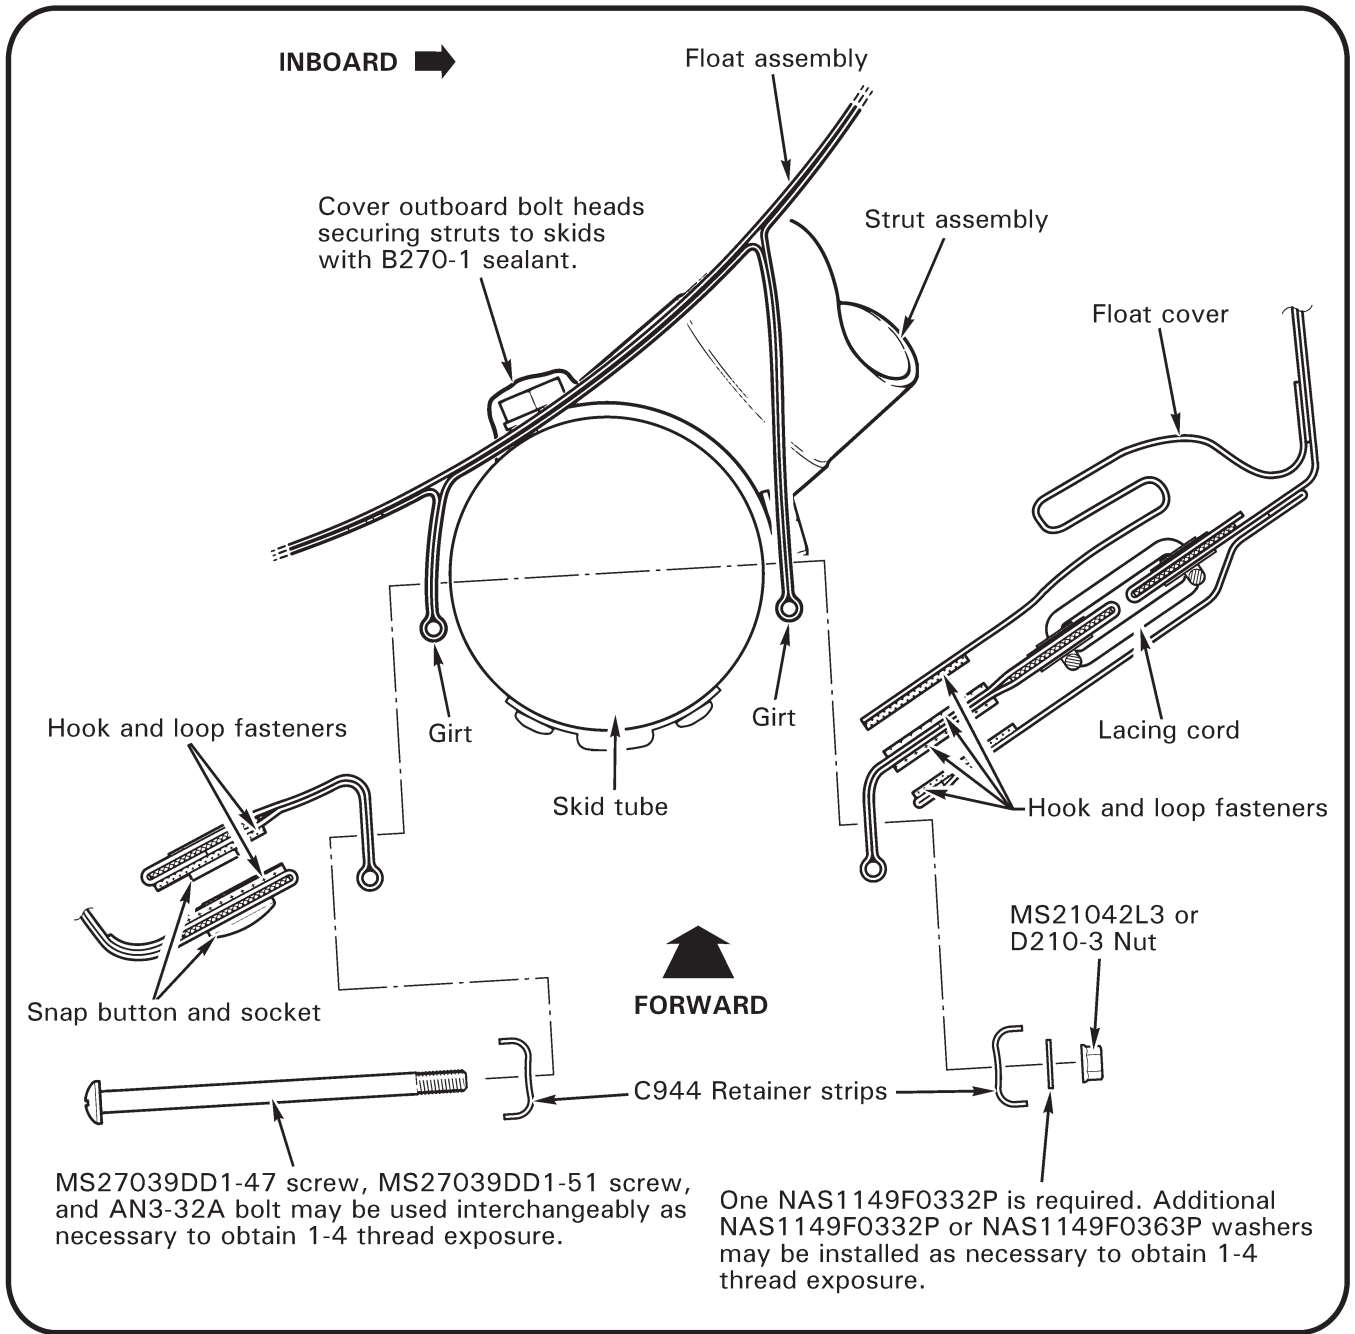
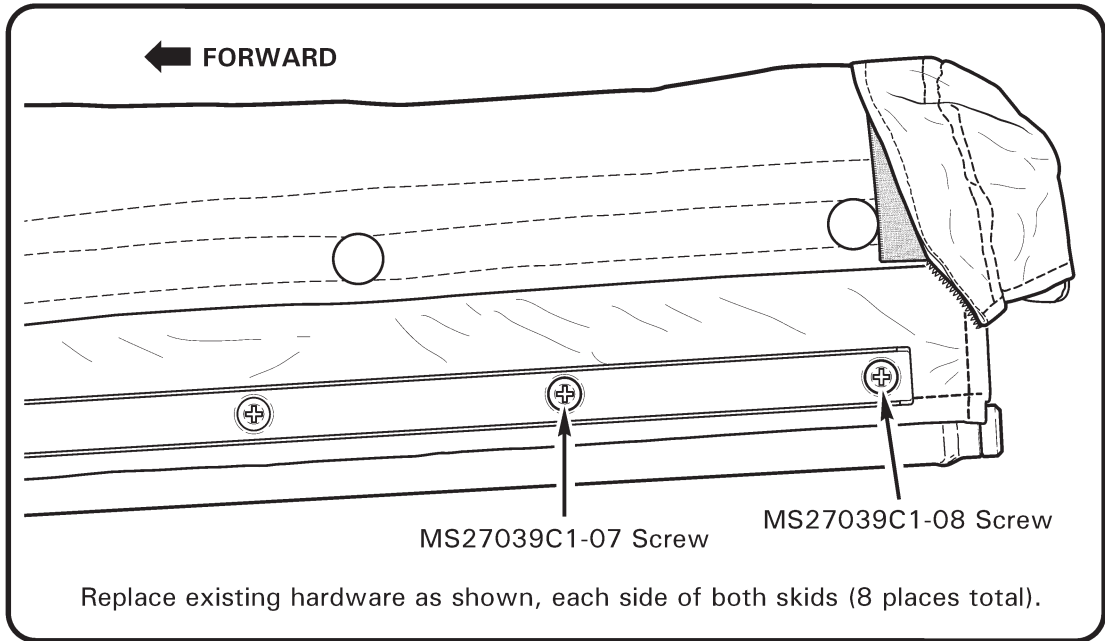

FIGURE 1
FIGURE 2
2. Refer to Figure 1 and R44 Illustrated Parts Catalog (IPC) Figure 32-19. Remove and retain two C944-3, C944-5, and C944-4 float retainer strips from each skid tube and extension.
7. Position skid shoe and loosely install (4) A142-1 screws (provided). Install strut attachment hardware. Standard torque bolts per R44 MM § 1.320. Secure A142-1 skid shoe screws.
11. Refer to Figure 1. Align holes in C944 retainer strips, float covers, float girts, and skid extension, installing hardware as required to achieve 1-4 threads exposed beyond nut; replace two aft-most installation hardware with (2) MS27039C1-08 screws and (2) MS27039C1-07 screws per Figure 2. Special torque hardware to 25 in.-lb wet with A257-9 anti-seize (threads only).